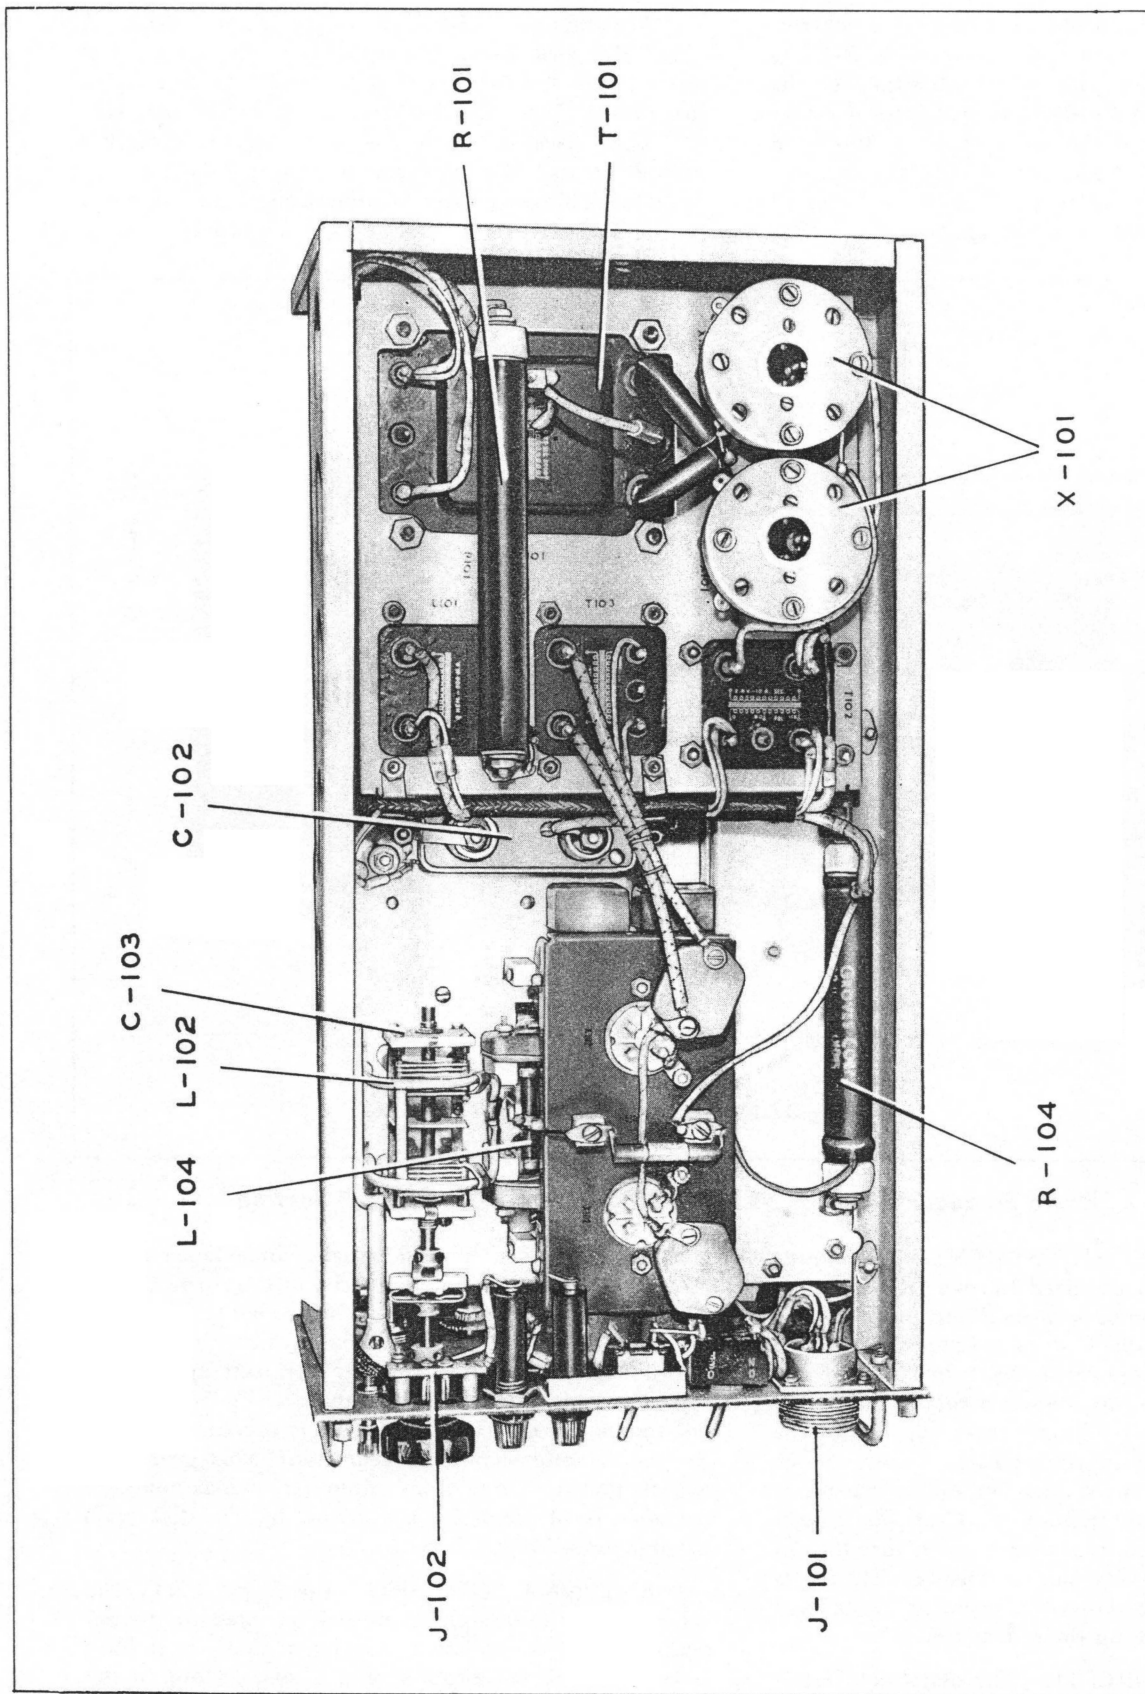

Figure 4-1. Radio Frequency Amplifier AM-18/APT—Bottom View of Chassis
a. INPUT CIRCUIT. (See figure 4-1.)—The radio frequency excitation is fed into jack J-103-1 where the signal is carried by a concentric line and coupled to the
b. SUB-CHASSIS ASSEMBLY. (See figure 4-1.)—The entire sub-chassis assembly deck (chassis painted red) is maintained 2000 volts negative with respect to ground. The deck is physically mounted by ten deck bypass capacitors (C-104 to C-106). The filaments of
c. METERING CIRCUIT. (See figure 4-1.)—A "METER" jack J-102 is provided on the panel. The meter series resistor R-103 is a resistor of such value that when Test Set I-139-A is plugged into the "METER" jack, a usable indication of the amplifier cathode current flowing through resistor R-102 will be provided. This constitutes an indication of the combined grid and plate current drawn by the amplifier tubes.